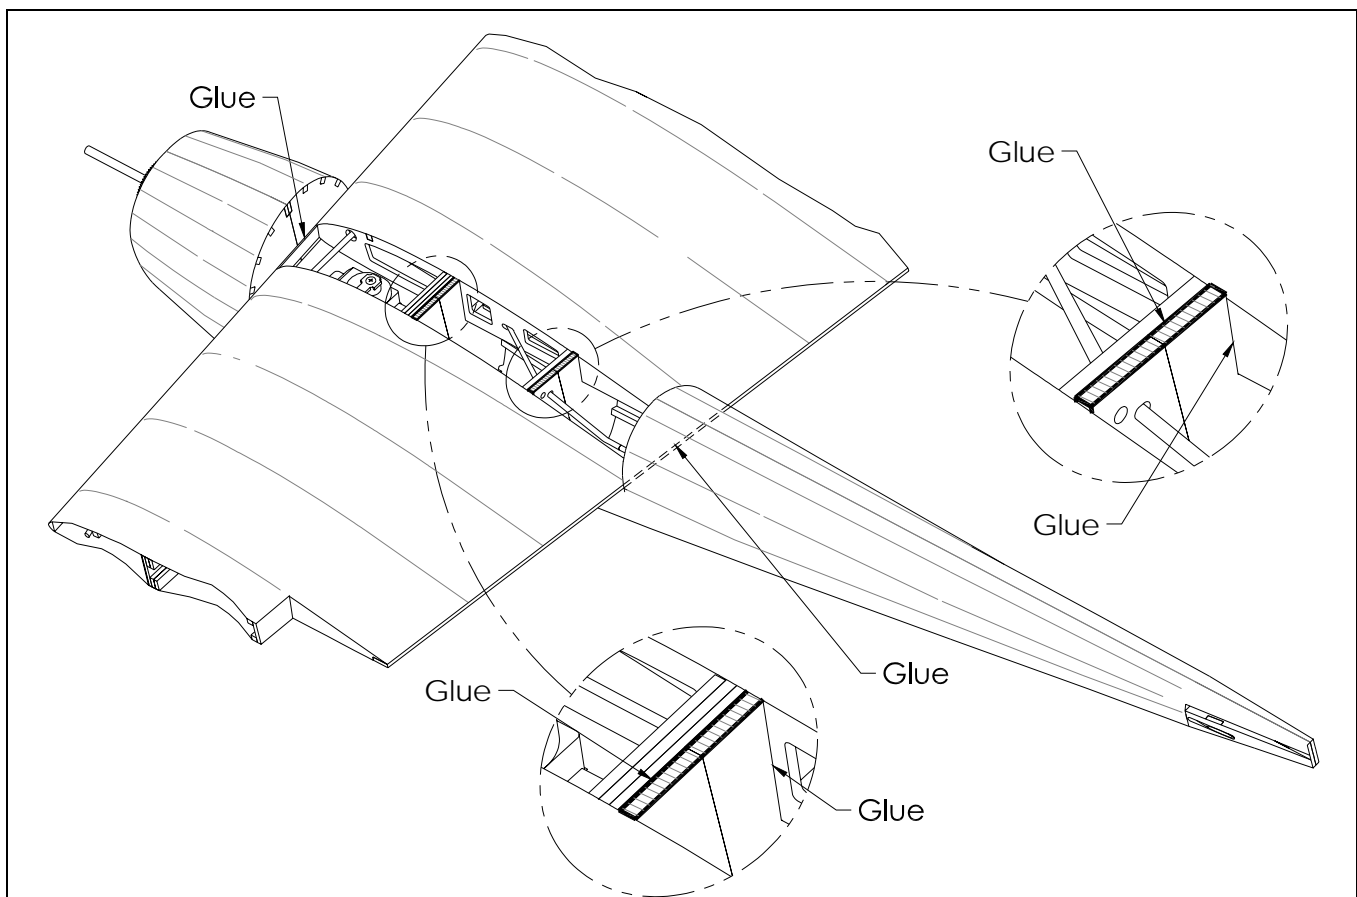

Figure 26
- When you're sure things are fitting properly, soak every connecting surface of the wing and boom with CA glue. This includes the leading edge, trailing edge, and spars of the wing to their adjacent boom formers as shown in Figure 26.